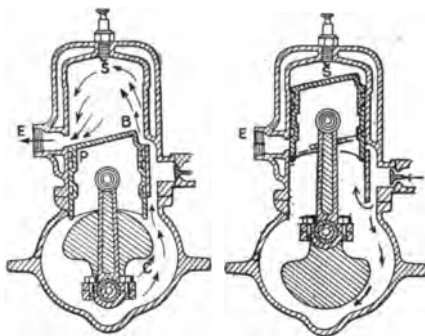

FIG. 192. — Two-cycle engine.
**226. Two-cycle engine.** In the two-cycle gas engine, we have one explosion for every two strokes or for each revolution of the crank shaft. A simple form, such as is used on motor boats, is shown in figure 192. The explosive mixture is taken into an airtight crank case and slightly compressed on the outward or down stroke of the piston. As the piston nears the bottom of its stroke, it uncovers first the outlet port, *E*, letting part of the spent gases in the cylinder blow off, and then